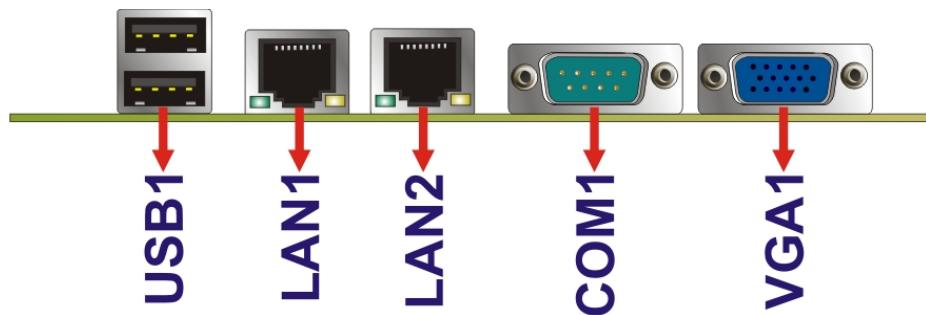
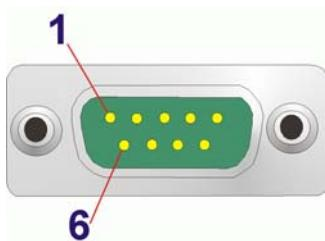

Figure 3-19: External Interface Connectors
Figure 3-21: Serial Port Pinout Locations
Figure 3-19 shows the WAFER-PV-D4251/D5251/N4551 motherboard external interface connectors. The WAFER-PV-D4251/D5251/N4551 on-board external interface connectors are shown in Figure 3-19.
**CN Location:** See **Figure 3-19**
**CN Label:** COM1**CN Type:** DB-9 Male connector**CN Location:** See Figure 3-19**CN Pinouts:** See Table 3-23 and Figure 3-21